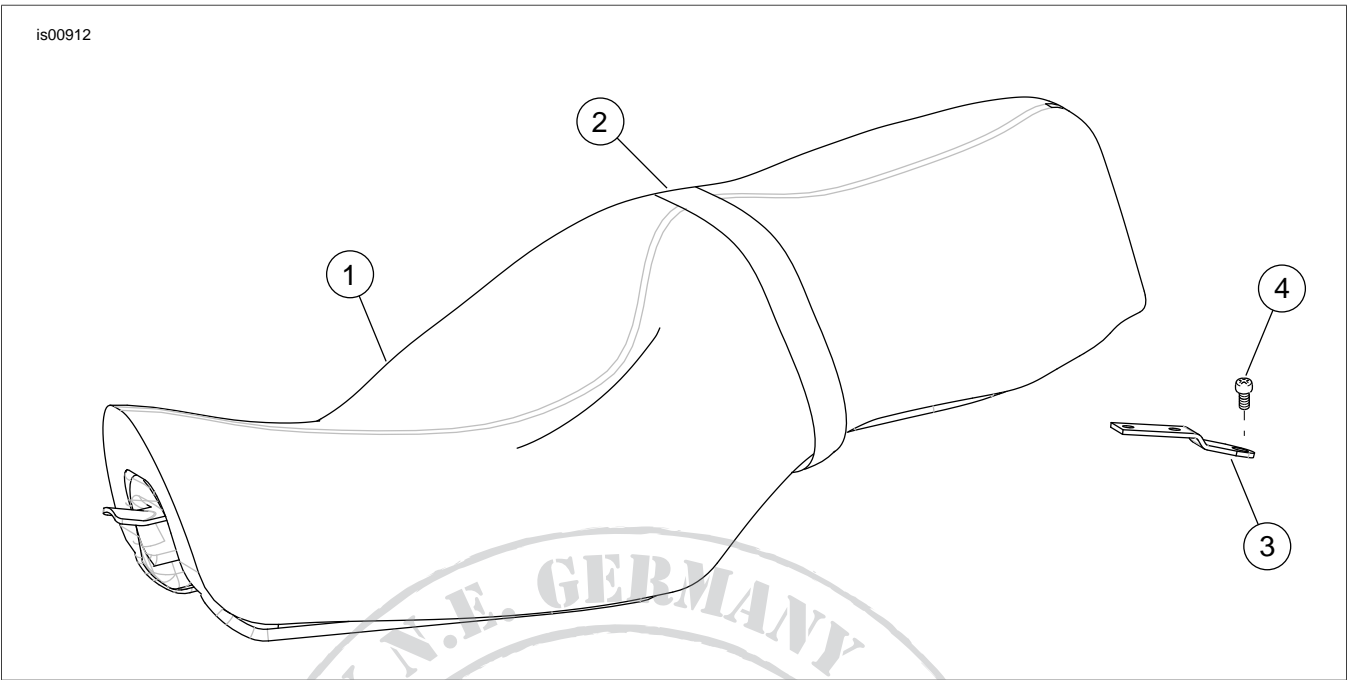

Figure 3. Service Parts: XL Seat
See Figure 3 and Table 1.
- Angle the front of the new seat into place so the tongue (1) engages the slot at the rear fuel tank mounting location.
- Push the seat forward and rotate the rear of the seat downward until the seat contacts the frame. Flex the seat slightly in the middle and slide the seat towards the rear so that the keyhole slot (2) on the seat bottom engages with the center seat post on the frame.
- See Figure 3. Pull up on the center of the seat to verify that it is locked into place. (There will be a small amount of play, but the seat should only come up about a half an inch and then will be held firmly in place by the post on the underside of the seat.) If the seat is not firmly in place, repeat Step 2 until the seat is firmly in place. Reference the Owners Manual for further instruction on seat placement if needed.
- Install the seat mounting (4) screw, and fasten the seat mounting bracket (3) to the top of the rear fender.